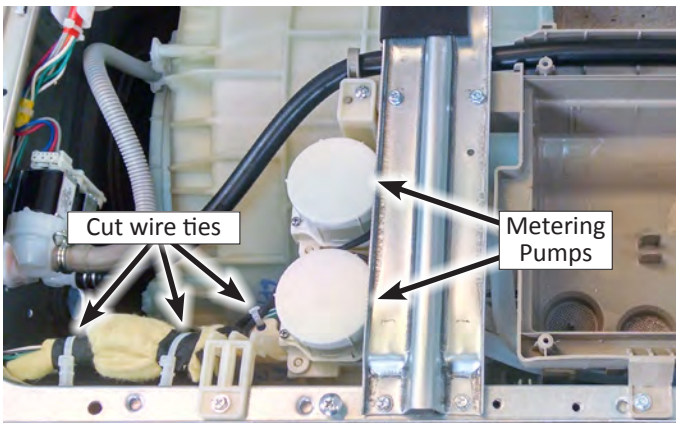

Figure 1
5. For ease of pump removal, take out the "T" shaped cross-brackets by removing eight (10) Phillips screws.
6. The two (2) metering pumps are located behind the bulk detergent dispenser (see Figure 1). Clip the three wire ties securing the metering pump harnesses. Gently remove the tape and connector coverings for reinstallation later.